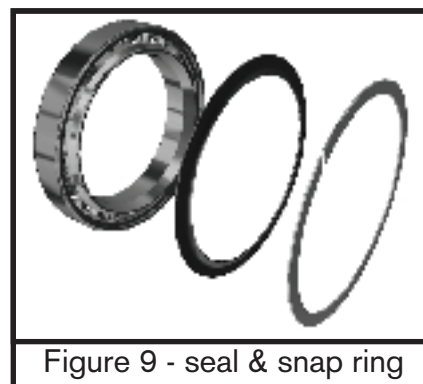

Figure 9 - seal & snap ring
1. Chris King sealed bearings have removable snap rings that hold the rubber seals in place. (See figure 9.)